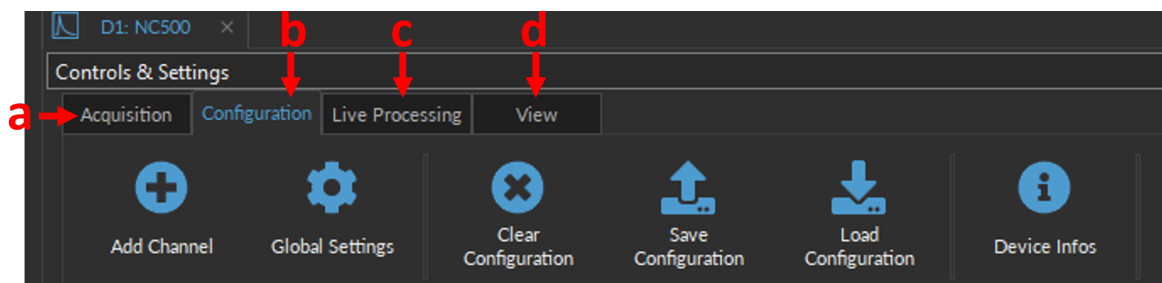

Figure 16.5: Control & Setting Tabs
- a) The **Acquisition** tab (Fig. 16.5, a) contains recording-related tools.
- b) The **Configuration** tab (Fig. 16.5, b) contains channel configuration-related tools. See **Table 16.1** for a complete list of available channel types, their use cases, and their individual User Manual Sections.
- c) The **Live Processing** tab (Fig. 16.5, c) contains preset configurations, such as **Filters** (Section 16.7.1.1), **Interleaved** (Section 16.7.1.2), **Lock-In** (Section 16.7.1.3) and **Ephys** (Section 16.6.4).
- d) The **View** tab (Fig. 16.5, d) contains visualization-related tools.